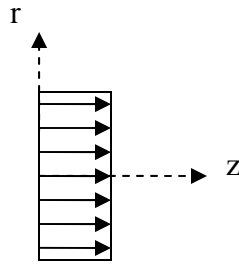

Figure 3. Velocity profile at Point a.
- ii) Given a uniform velocity profile at Point a (shown below in Figure 3), sketch the velocity profiles at Points b and c for the **round** tube. Explain changes you see, if any, in the profiles at Points b and c. (5%)